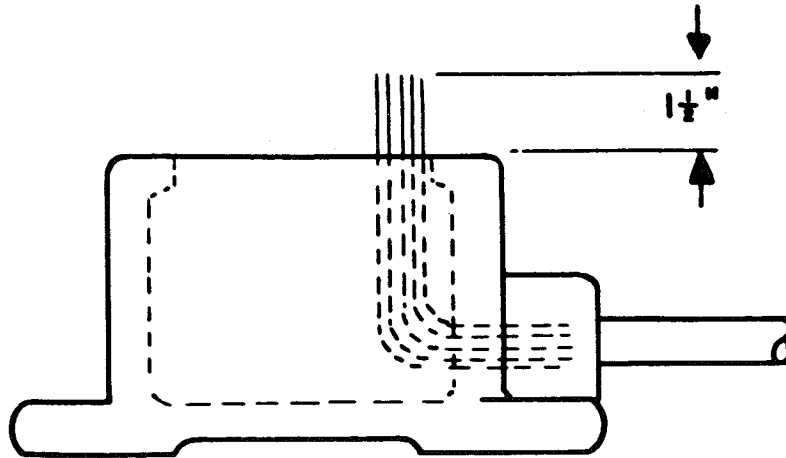

Figure 3-3. Preparation of Conduit Wiring.
- a. When threading conduit, cut the wires so that all wires project beyond the housing surface approximately $1\frac{1}{2}$ inches as shown in Figure 3-3. Do not later pull wires tight as you will be unable to remove cover holding the mechanism.